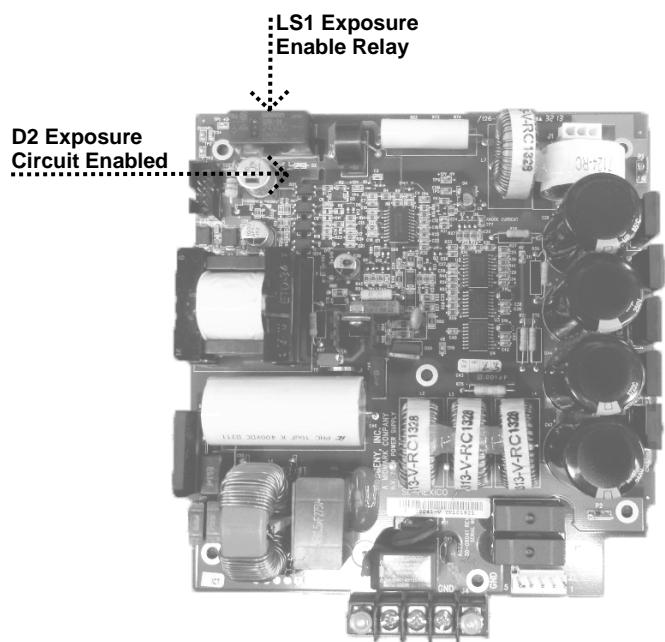

Figure 60
2. If the Operator Display indicator sounds, but the Logic Board indicator does not activate, observe LED D2 on the Power Supply Board, and listen for the relay LS1 to activate on this same board (*Figure 60*). LED D2 should illuminate during the exposure request. If not, inspect the condition of the ribbon cable between the Power Supply and the Logic Boards. If the ribbon cable is acceptable, replace the Logic Board.